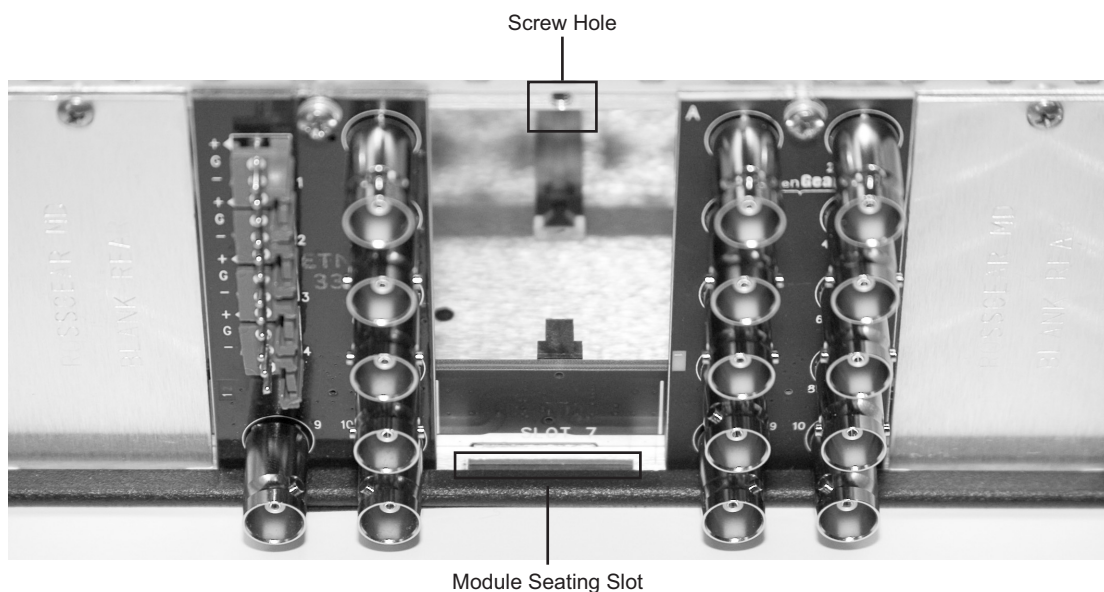

Figure 2.1 Rear Module Installation in a DFR-8310 Series Frame (AVS-8764 not shown)
3. Install the bottom of the Rear Module in the **Module Seating Slot** at the base of the frame’s back plane. **Figure 2.1**